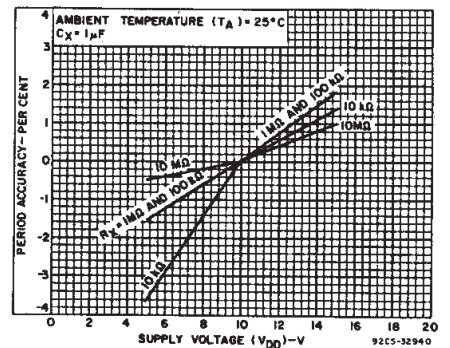

Fig. 11—Typical astable oscillator or Q, $\bar{Q}$ period accuracy vs. supply voltage.
B. Variations Due to V_{DD} and Temperature Changes — In addition to variations from unit to unit, the astable period varies with V_{DD} and temperature. Typical variations are presented in graphical form in Figs. 11 to 18 with 10 V as reference for voltage variations curves and 25°C as reference for temperature variations curves.